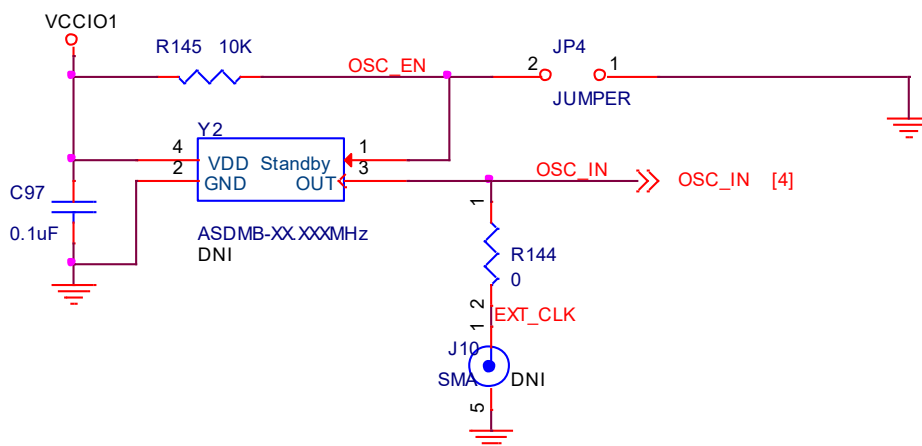

Figure 4.1. Optional Clock Circuit Design
- The board provides an optional clock input for the MachXO4 from either the oscillator (Y2) or the SMA header (J10), as shown in Figure 4.1. Neither is populated.